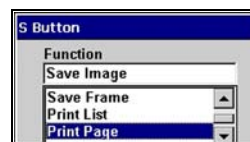

Figure 5-57 Sample S Button dialog box
2. Press **Y/✓** to open the dropdown list (Figure 5-57).